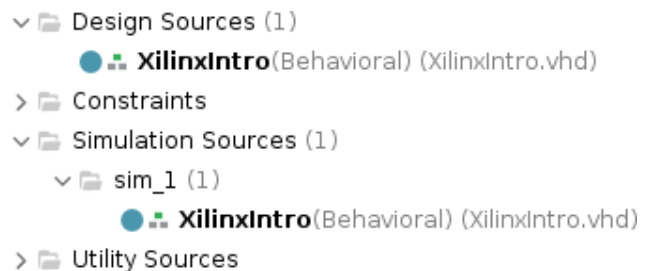

Figure 6: Sources hierarchy so far
- Double-check that the project is set up correctly thus far. The Hierarchy in the **Sources** view should appear as shown in Figure 6.